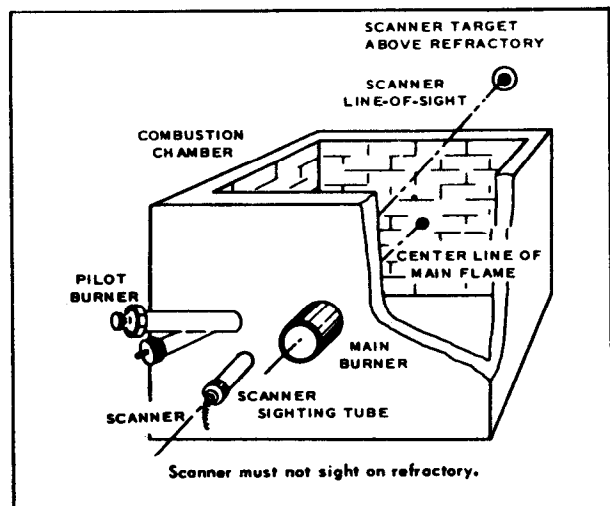

Figure 6
1. Locate scanner sight tube point of entry below and close to the burner ignition assembly (Fig. 6) and drill a 7/8" hole through the boiler or furnace wall. The sight tube, a 4"-8" length of 1/2" black iron pipe, will be fixed to the hole when the proper position has been established.